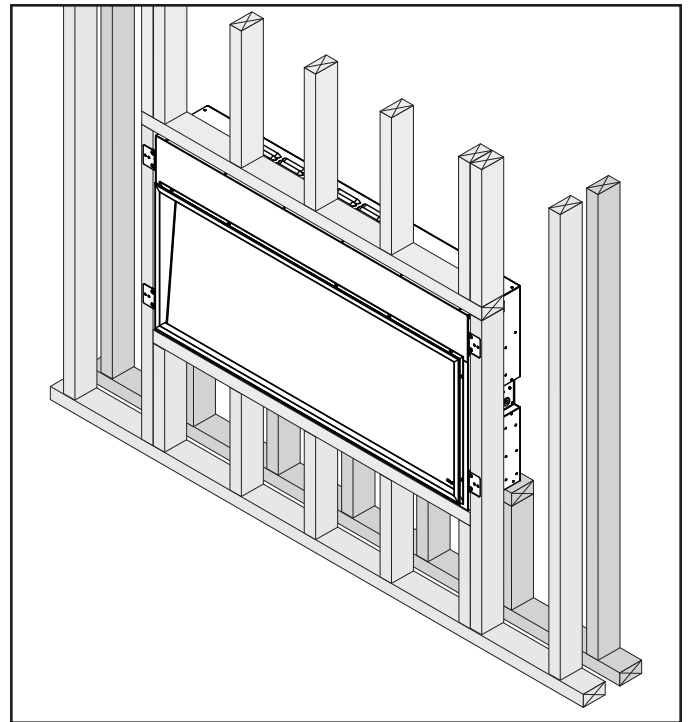

Figure 4.4 Install Appliance
6. Install the appliance into the framed opening. Reference Figure 4.4.
8. Ensure that the appliance is centered left to right, then fasten the mounting brackets directly to the framing with four (4) ST4x40 construction screws.